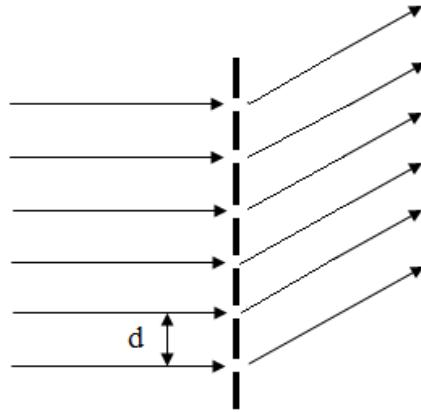

Figure 2.1: Diffraction grating
**Theory:** Diffraction grating is an arrangement of large number of equidistant and parallel slits (Fig 2.1). One of the techniques to manufacture diffraction grating is to rule the equidistant lines on glass plate. Typical diffraction gratings consist of 15000-20000 lines per inch (this number can reach up to 100000 lines per inch). The qualities i.e. dispersive power and resolving power depend upon number of slits and slit density.